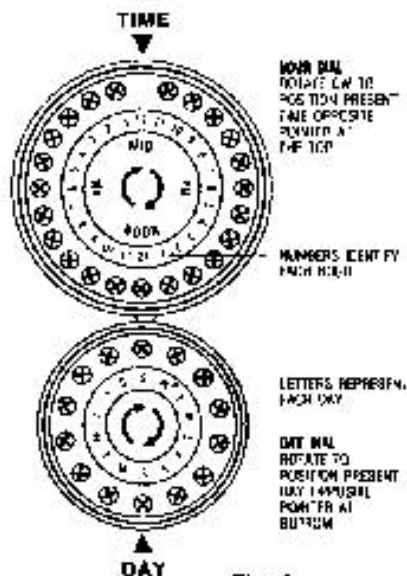

Fig. 8
**NOTE:** A maximum of four Rain Bird 2-watt solenoid valves may be connected to each station output lead. This applies when the Master Valve Circuit is NOT used. Refer to Fig. 8 for variations of the station load capacities.
If a Master Valve is to be used, refer to Fig. 8 for station capacity limitations.